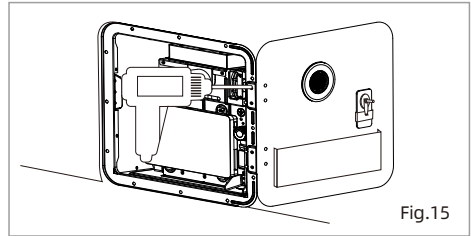

Fig.15
4. Install the water heater door (Fig.15)